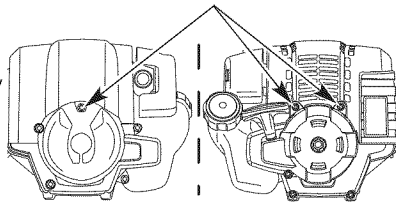

Fig. 40
1. Remove the two (2) screws on back of the engine cover and the one on the front of the engine cover with a Flat-head or T-25 Torx screwdriver (Fig. 40).
1. Stop the engine and allow it to cool. Remove the two (2) screws on back of the engine cover and the one on the front of the engine cover with a Flat-head or T-25 Torx screwdriver (Fig. 40).